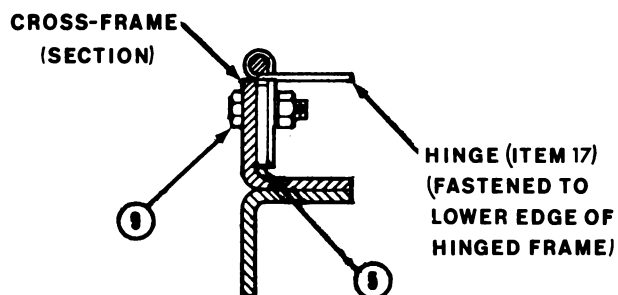

Figure 14. ASSEMBLY DETAIL 50117
Insert a  $\frac{1}{4}$ -20 x  $1\frac{1}{4}$ -inch hex head machine bolt (item 11) in holes number 1 and 5; insert a  $\frac{1}{4}$ -20 x 1-inch bolt (item 10) in holes number 2, 3, and 4 (refer to Figure 12b). Align the holes in the stepped surface of the spacer (item 4) with the bolts, and place it against the inside surface of the top cross-frame (refer to Figure 14).
its rounded end downward (refer to Figure 14). Fasten the assembled pieces using a lockwasher (item 15), and a hexagon nut (item 23) on each bolt.